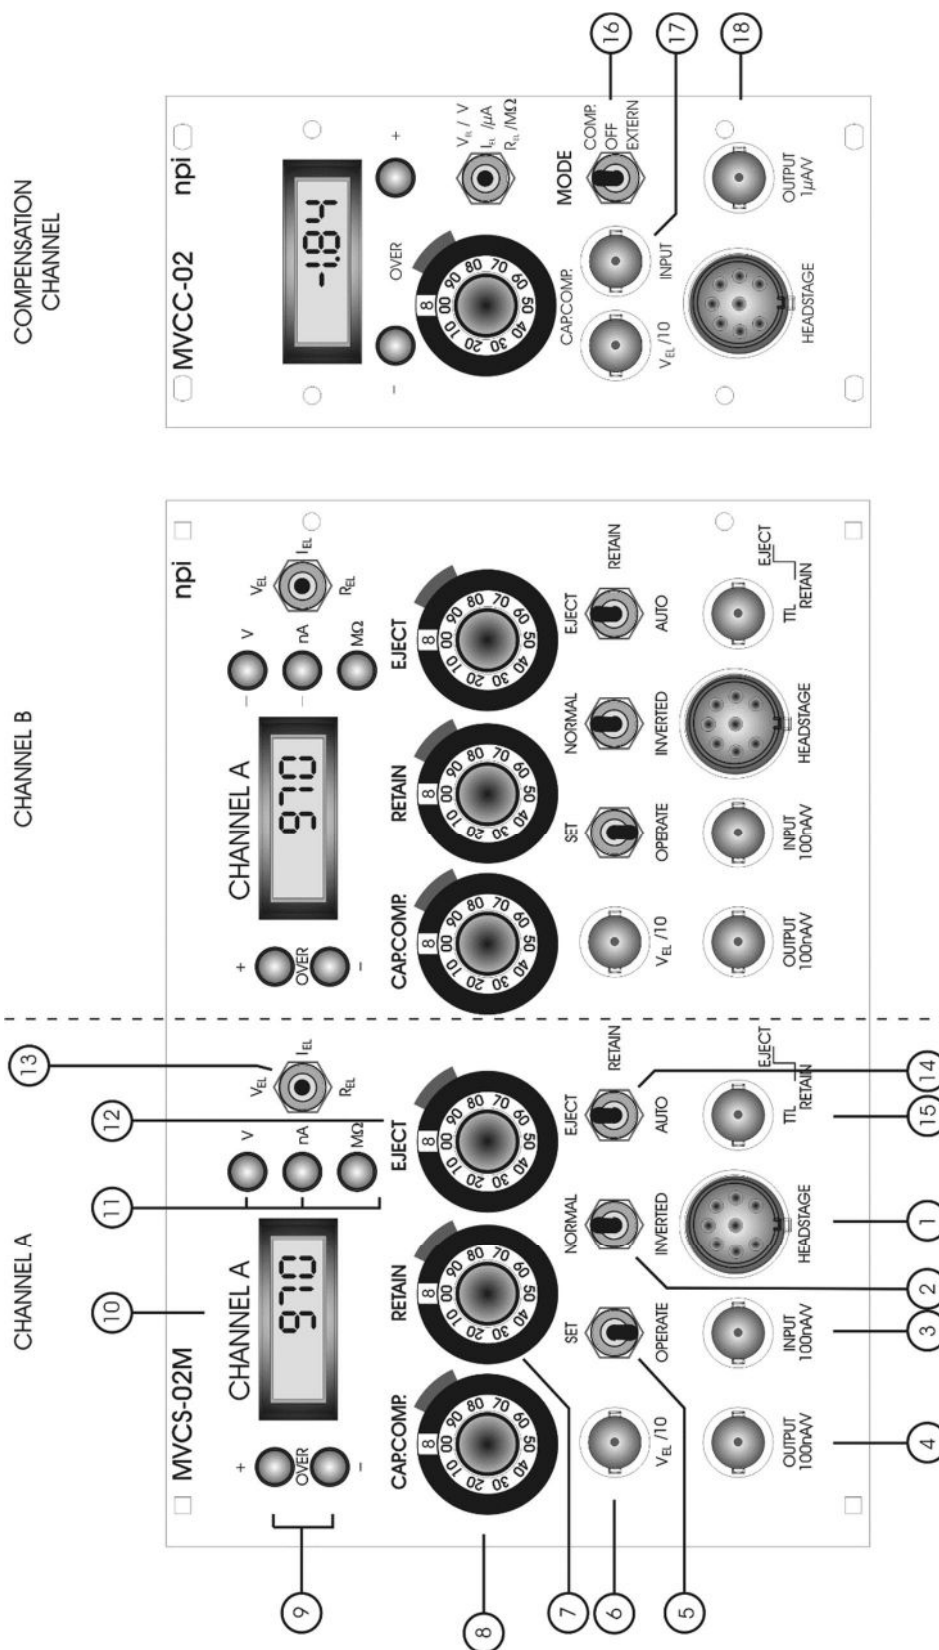

Figure 5: MVCS-C-02M / MVCC-C front panel view (the numbers are related to those in the text below)
In the following description of the front panel elements, each element has a number that is related to that in Figure 5. The number is followed by the name (in uppercase letters) written on the front panel and the type of the element (in lowercase letters). Then, a short description of the element is given.
Figure 5 shows the MCVS-C-02 / MVCC-C (fast systems) with capacity compensation and the automatic electrode resistance test facility. These two features are not present in the MVCS-02 / MVCC (slow systems). In slow systems the CAP. COMP. potentiometer is not installed and the function of R_{EL} is somewhat different (see below).
Hint: If one channel is not used the headstage can be left unconnected, but then the display for this channel will show arbitrary values. So, we recommend connecting the headstage even if it is not used and set channel to SET mode using switch #5, Figure 5).
MVCS-C / MVCC-C: Connect the headstages to the HEADSTAGE connectors (#1, Figure 5) at the front panel of the respective module.
- MVCS-C / MVCC-C: Connect the $V_{EL}/10$ connectors and the current OUTPUT (#4, Figure 5) to an oscilloscope or to a data acquisition system.
- If you intend to control the MVCS / MVCS-C system externally (e.g. by a computer) connect the gating signal to TTL (#15, Figure 5), the stimulus waveform to INPUT (#3, Figure 5) and the current OUTPUT (#4, Figure 5) to the analog input of the data acquisition system.
All numbered items refer to Figure 5, page 12, in the following discussion.